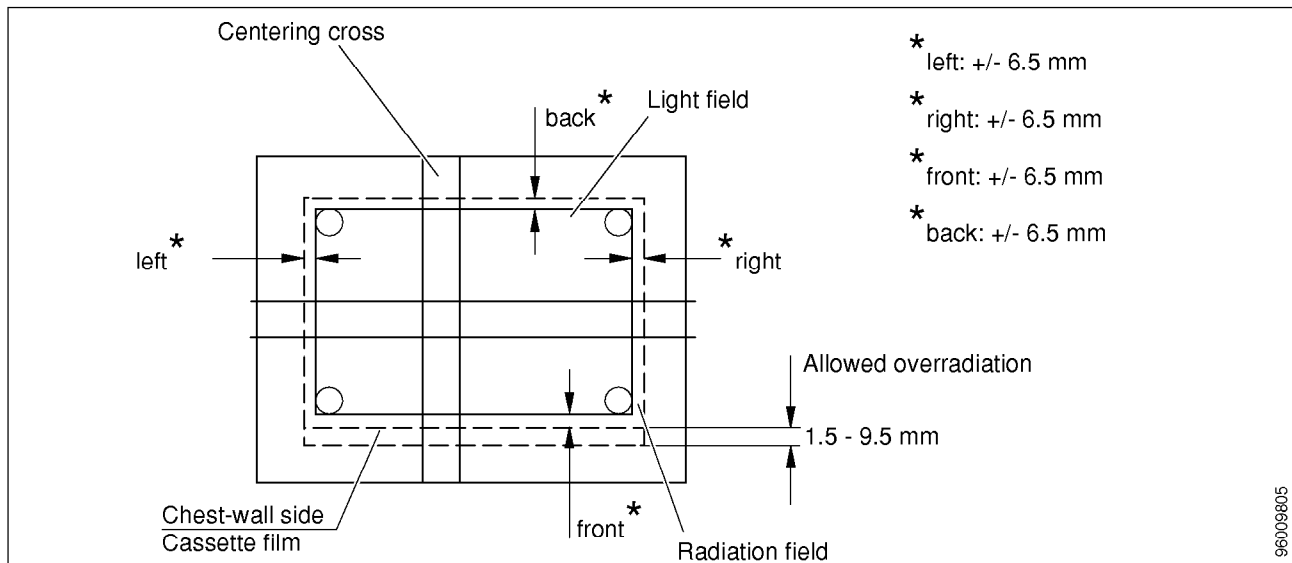

Fig. 2
- Draw the position of the light field by connecting the outer edges of the coin markings as shown in Fig. 2.